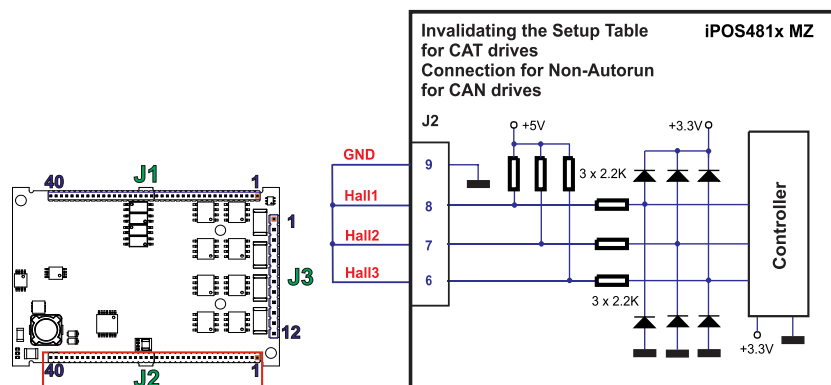

Figure 3.32. Temporary connection during power-on to remove the drive from Autorun mode or invalidate the Setup table
To recover from this behavior, the setup table can be invalidated by connecting all digital Hall inputs to GND, as shown in Figure 3.32.
- c) Hardware2 – by temporary connecting all digital Hall inputs to GND, during the power-on for about 1 second, until the green LED is turned on, as shown in **Figure 3.32**. This option is particularly useful when it is not possible to communicate with the drive.